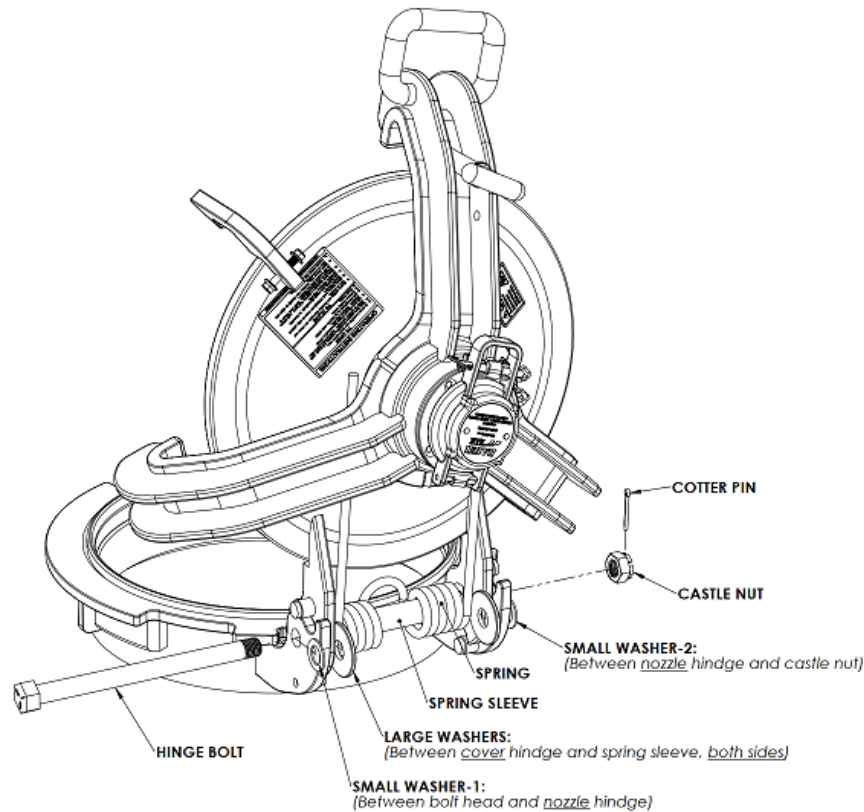

Figure 4 – Lift Assist Spring Orientation and Hinge Hardware Arrangement
- i. The cover assembly should be installed in the open position, when there is no tension on the Lift-assist spring. See Figure 4.
- iv. Note the orientation of the center loop of the spring in figure 4. This orientation is necessary to ensure when the cover assembly is closed, the center loop comes to rest on the nozzle in a manner which provides spring lift assist.
- v. Insert the hinge hardware according to Figure 4, with the bolt inserted from left to right.